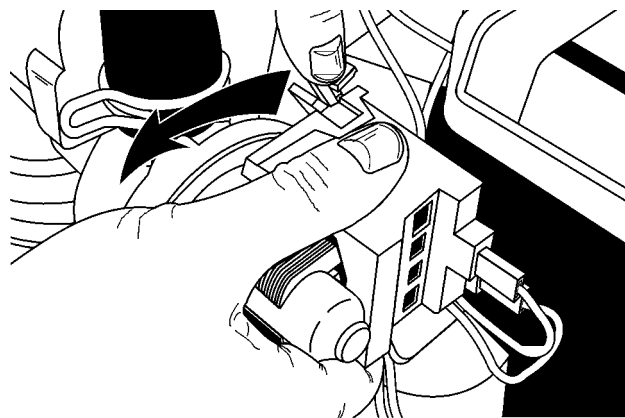

Fig. 3-18
1. Remove the bolt securing the wash motor and drip shield in place on the pump assembly. (Fig. 3-18)
1. With one hand, press back on the plastic tab that holds the pump motor from rotating. (Fig. 3-18)